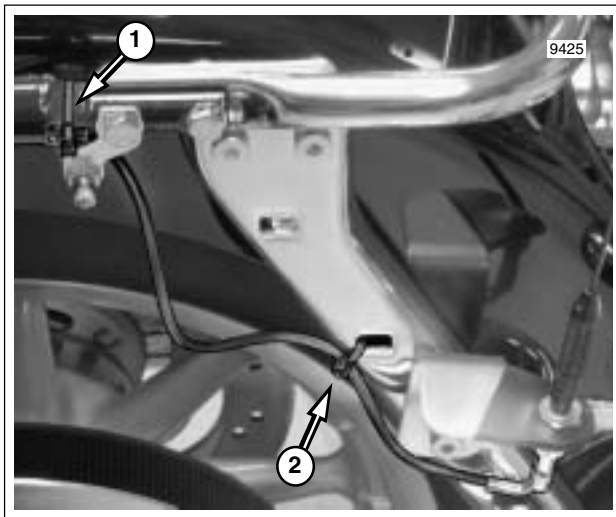

Figure 8-154. Capture Radio Antenna Cable (FLTR)
- a. Feed radio antenna cable and connector rearward following inboard side of upper frame tube. With the 3-place Multilock connector (unused) positioned about as far rearward as the rear shock air valve, install **new** cable strap to secure radio antenna cable to shoulder of upper frame tube (just in front of air valve mounting bracket). Using slotted hole, install **new** cable strap to secure radio antenna cable to rear fender support. See Figure 8-154.